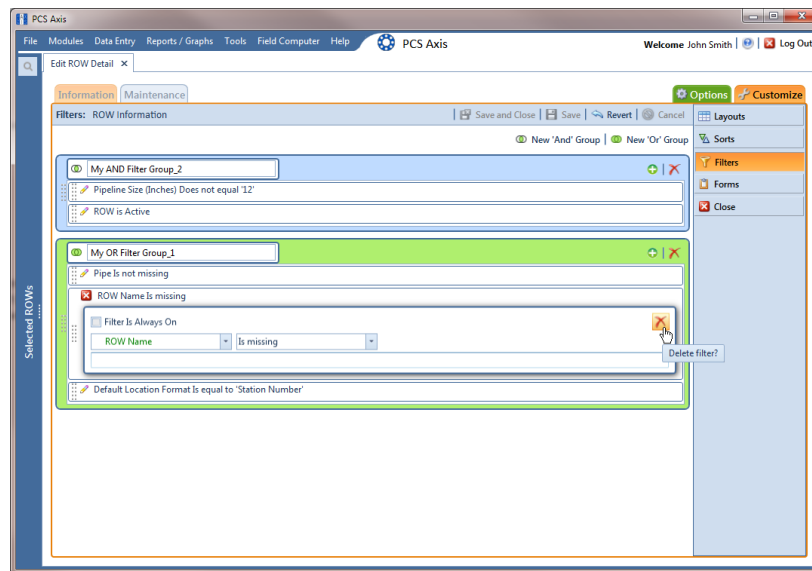

Figure 4-45. Filters
- 6 To delete a filter in a filter group, click the filter's  delete button (Figure 4-45). Then click  **Yes** when the *Delete* message displays.